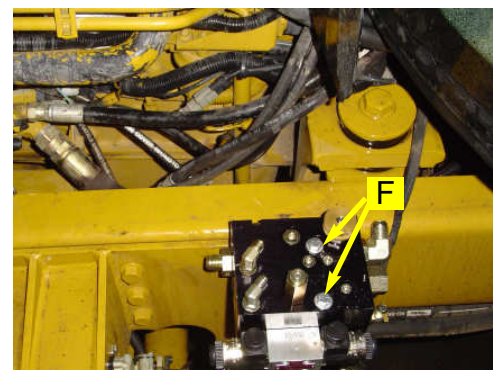

Figure 2c. Automated Steering Block (installed).
- c. Install the Automated Steering Block, as prepared in step 1, to the mounting bracket using the mounting hardware (**F**). Tighten the mounting bolts securely. (Figure 2c.)